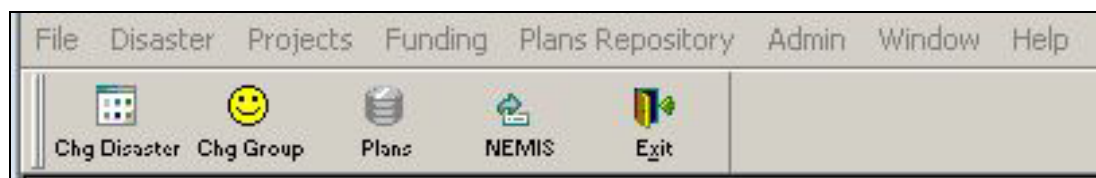

Figure 1-12: Mitigation Menu Bar
- Click the OK button. The Mitigation menu bar is displayed (Figure 1-12).